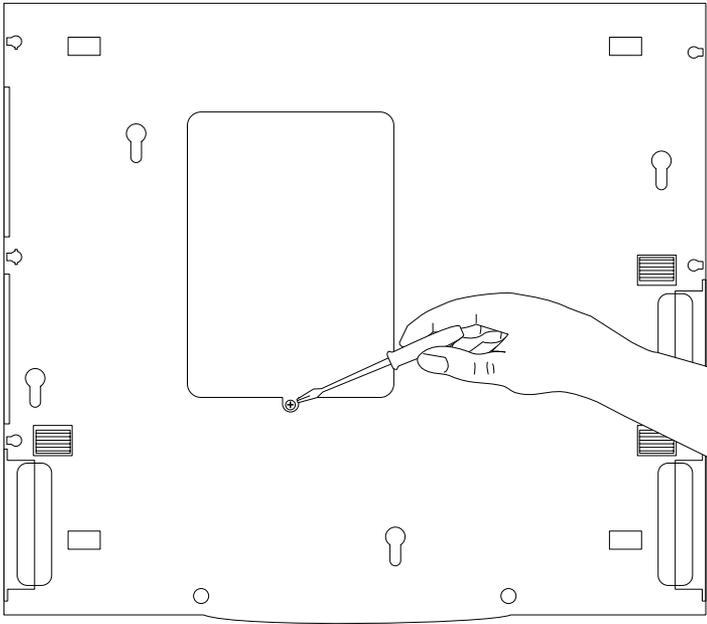

Figure 3-12 Removing the Memory Cover
4. Using a small Phillips screwdriver, remove the memory access cover as shown in Figure 3-12.